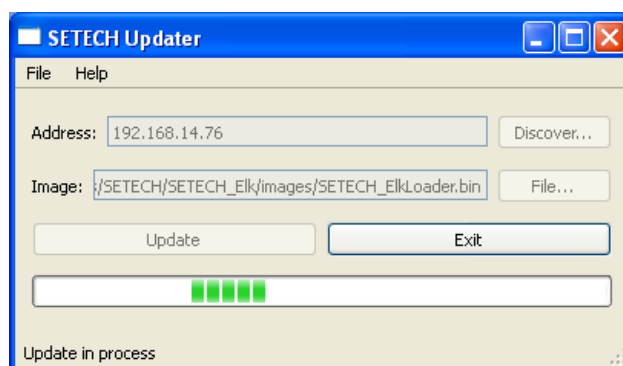

Figure 3 - Loader Firmware Update In Process
7. Activate the **Update** button to start the update process (see Figure 3).